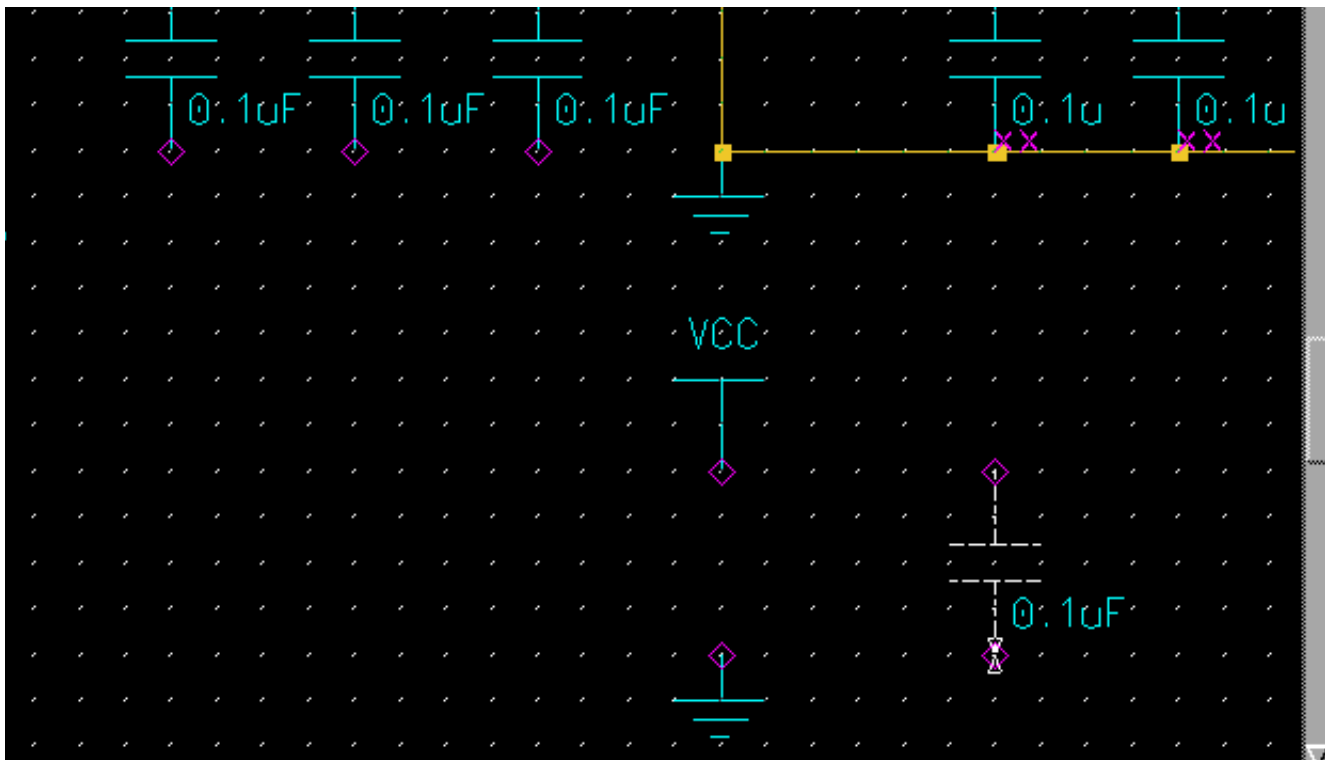

Figure 2-27. Starting the Bottom Row of Capacitors
30. The capacitor is still the active symbol; click the Select mouse button in the Active Symbol window. Drag the ghost image of the capacitor six grid points to the right of the **vcc** and **ground** symbols, as shown in Figure 2-27. Click the Select mouse button to place the symbol.